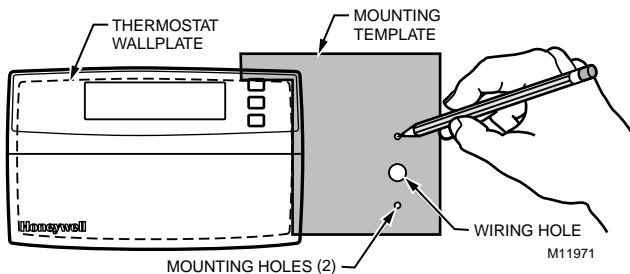

Fig. 9. Positioning mounting template.
1. Hold the mounting template (included in the bag assembly) next to the T8600 as shown in Fig. 9.